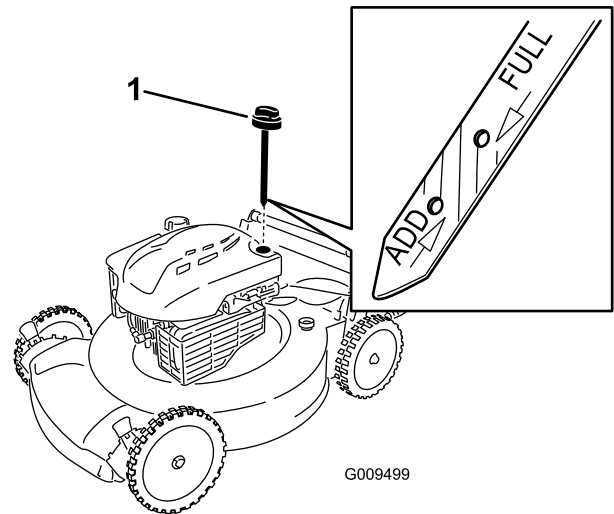

Figure 8
1. Remove the dipstick, wipe it clean, and fully install the dipstick (Figure 8).
2. Remove the dipstick and check the oil level (Figure 8). If the oil level is below the **Add** mark on the dipstick, **slowly** pour oil into the oil fill tube to raise the oil level to the **Full** mark on the dipstick. Wait 3 minutes after adding oil to check the oil with the dipstick. **Do not overfill.** (Max. fill: 20 oz. (0.59 l), type: SAE 30 detergent oil with an API service classification of SF, SG, SH, SJ, SL, or higher.)